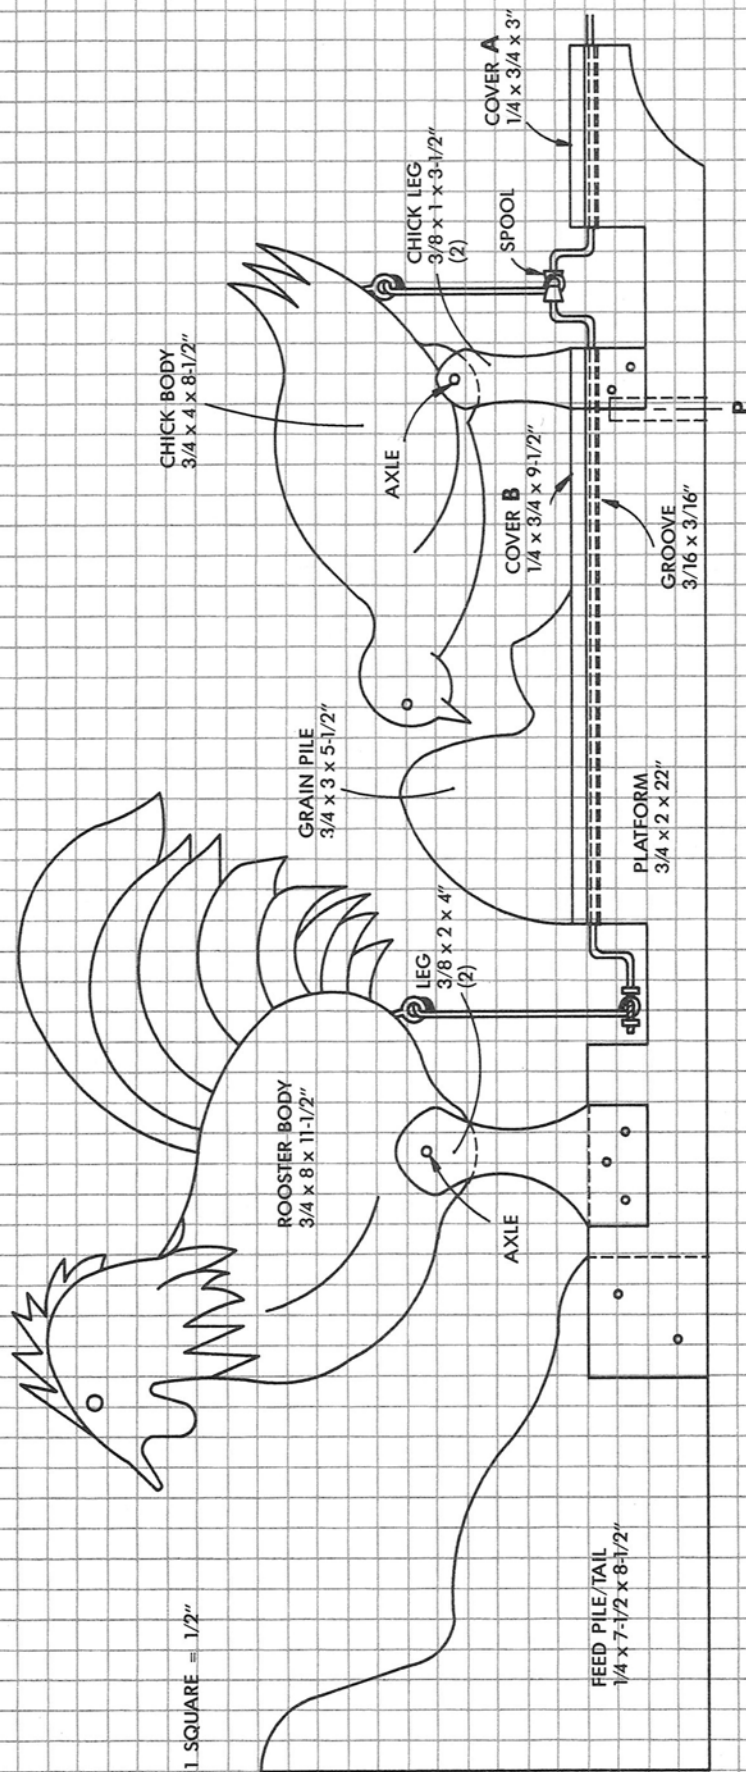

Figure 4-39. Plan for Chickens Feeding whirligig.
1. Cut out the platform and mark where objects will be located (Fig. 4-39). Draw a line 1 in. below the top of the platform for the bottom of the chickens' feet. The chick's feet reach from 5 to 6 in. along the platform and the rooster's from 17-1/2 to 19-1/2 in. Cut a 1/4 in. slot for the tail 2 in. from the back. Cut out two 1 in.-deep sections of the platform, one between 3 and 5 in. from the front and the other between 14-1/2 and 16-1/2 in. Cut out a 3/16 in. channel on the top of the platform from the front of the platform to the second cam cut-out section for the drive shaft.